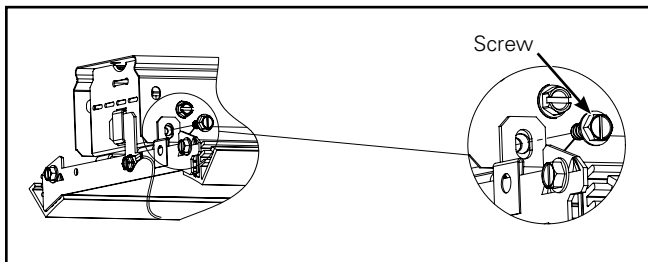

Figure 4.
- Secure the waveguide assembly to channel assembly with screws provided, Figure 4. (One side of the fixture only) (Use a long bit or right angle tool).